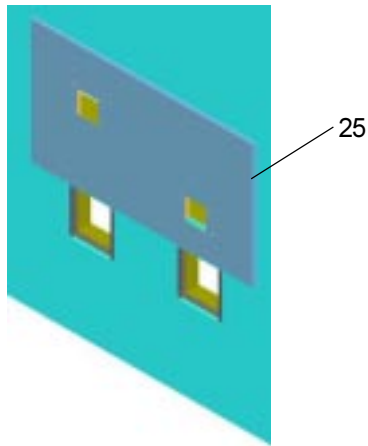

Figure 5 -Panel Installation
3. **Install back panel.** Place the upper edge of the panel above mounting plate on the wall. Slide the panel down until it engages the mounting plate. Be sure back panel is firmly engaged before releasing it. (See Figure 5)